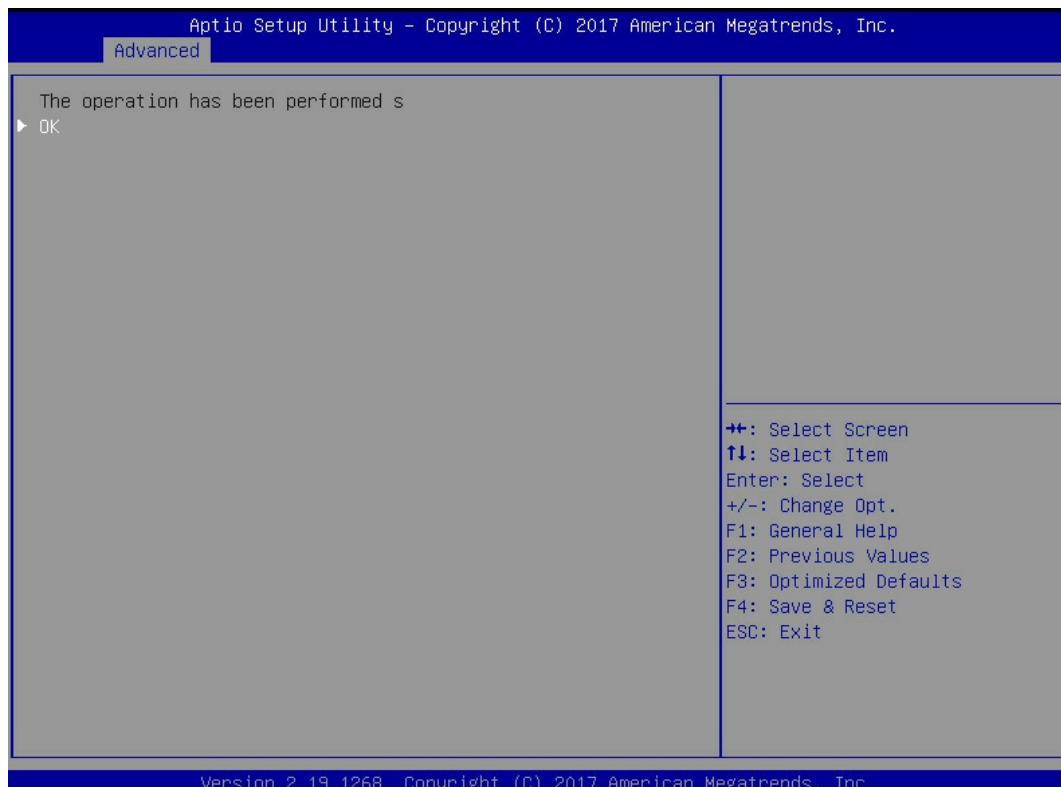

Figure 6-59
e) Enter the interface shown in figure 6-59 to complete the location operation of the physical disk.
❖ Figure 6-59 complete positioning of physical disk